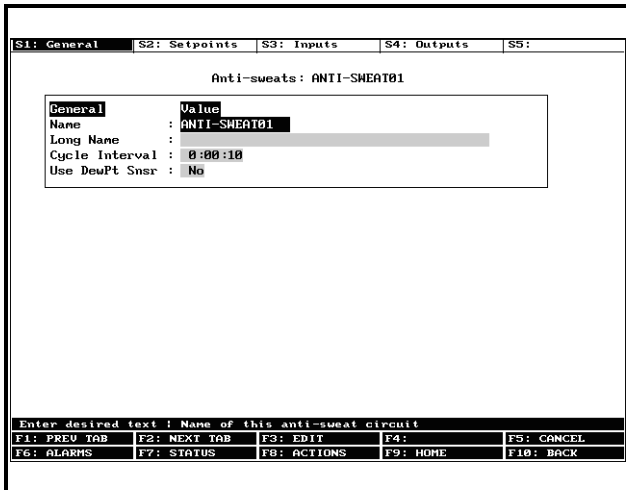

Figure 3-3 - General Setup Screen
4. The Anti-sweat General Setup screen will appear. See **Figure 3-3**. Enter the name of the zone, cycle interval, and "YES" if you are using a dewpoint sensor and press **Enter**.